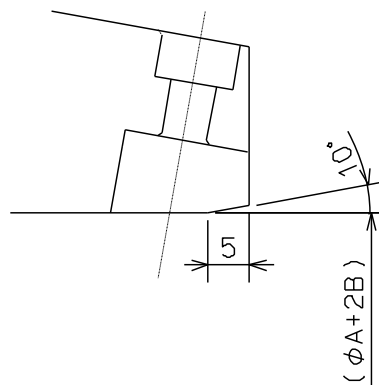

Fig.13
4. If the slope of work piece is less than 5 degree, it may be usual cylindrical face, while if it is more than 5 degree, provide the taper at the front side of jaw as shown in Fig.13 to prevent the work from interference.